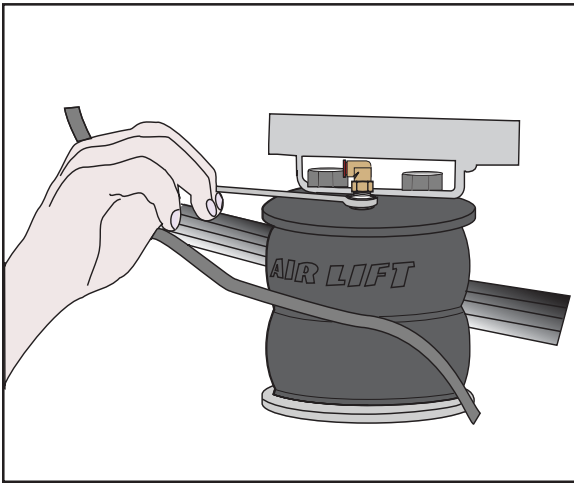

Figure 17
Install the swivel air fitting (T) into the top of the air spring (A). This fitting is pre-coated with sealant. Finger-tight plus two full turns with an open-end wrench will seal the fitting (Fig. 17).